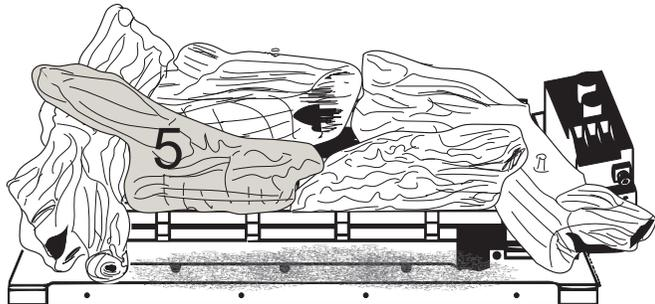

Figure 5.6 - Log #5 Placement
- Hold log #5 with the pointed end toward the right. Place log #5 by positioning the pin locator hole on the bottom of the log over the left pin behind the grate and resting the left end of the log over the notch on log #3. Note: Logs #4 & #5 must be seated and locked into position. The ember face of logs #4 and #5 should be straight and approximately 3/8" behind the grate bar. See Figure 5.6.